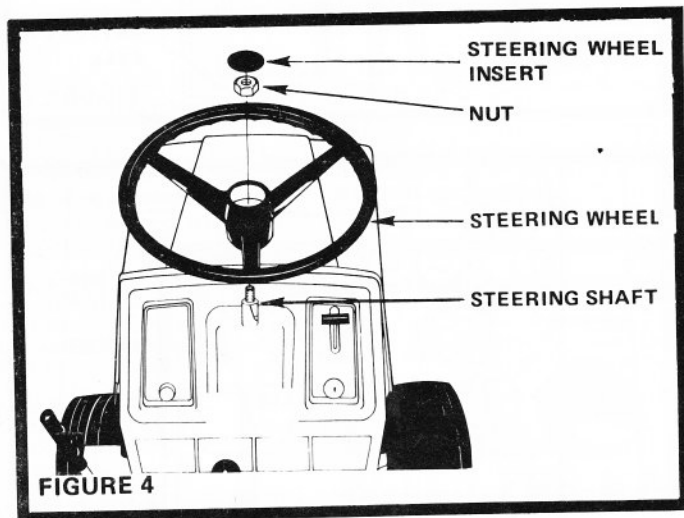

FIGURE 4
- c. Install the Steering Wheel Insert (Fig. 4).